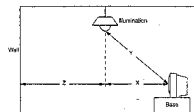

Fig. 1
- Place the set shown in Fig. 1. Do not hide the source of light with the cover from set side.
- Measure X, Y and Z shown in Fig. 1 of the room. And calculate the brightness at the front of the set L by following method.